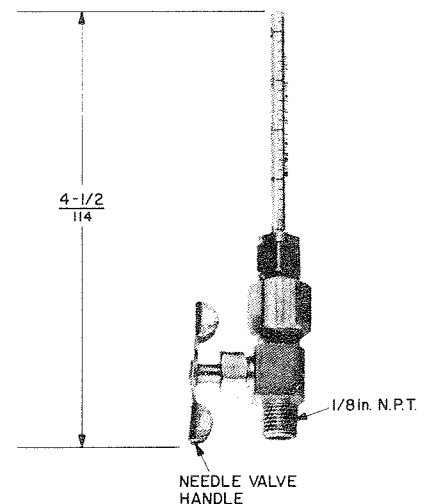

Fig. 1.31: Dimensions $\frac{\text{in.}}{\text{mm}}$
- Fully rotate the needle valve handle (see Fig. 1.31) counterclockwise to open it and record the time that the needle valve was opened on the record tag. Slide the record tag over the oil indicator to avoid misplacing it.